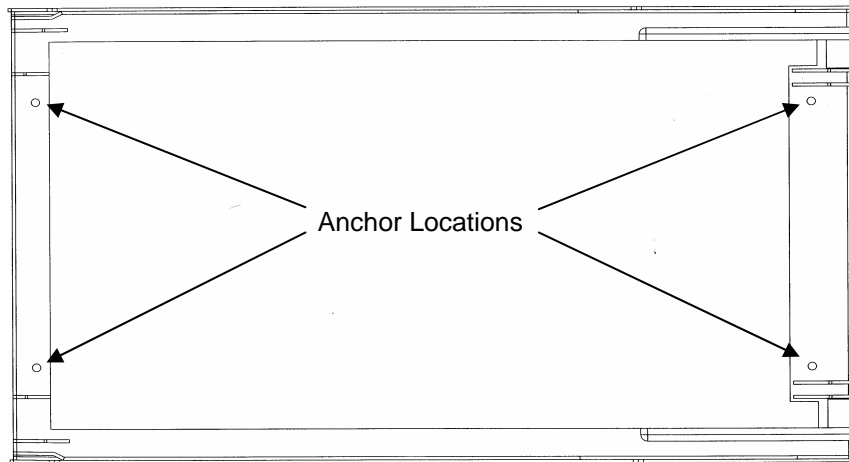

fig.5
After determining the location of the lift, mark the floor where anchor holes are to be drilled (see fig.5).
NOTE: The lift has (4) anchor points (see fig.5).
NOTE: Fig.5 shows only lift bottom pan for clarity.